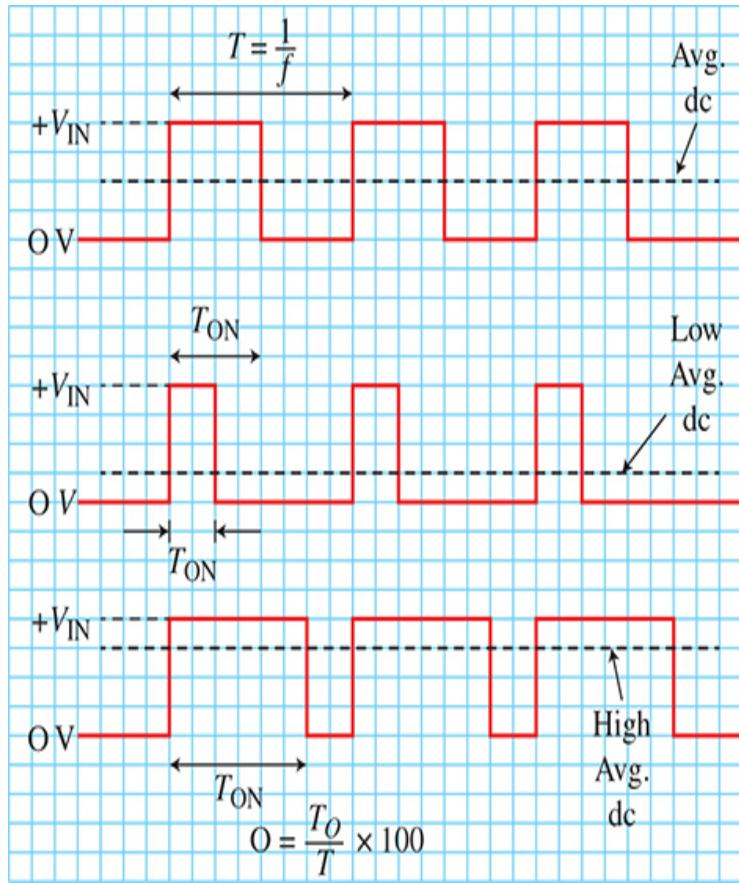

Figure 6.14 Illustration showing the concept of pulse-width modulation (PWM) that varies the duty cycle to correct for output changes.
Pulse-width modulation (PWM) is a method of using variable duty cycle pulses to vary the average dc voltage across a load. Duty cycle is the ratio of the pulse on time to the period of the pulses. Refer to Fig. 6.14.
Now, if you vary the duty cycle, you vary the average DC across the load. Figure 6.14 illustrates this. If the input voltage is 9 V peak and the duty cycle (DC) is 22 percent, the average output voltage would be